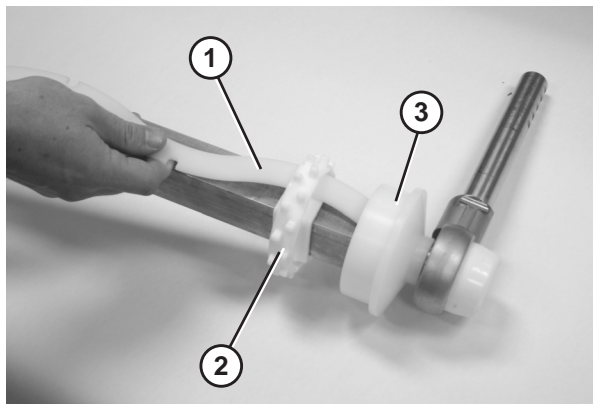

Figure 74
3. Insert the sprocket alignment bar (**Figure 74, item 1**) into the first sprocket (**Figure 74, item 2**) resting it up against the flanged puck (**Figure 74, item 3**). Position the first sprocket with the notch in the sprocket alignment bar.